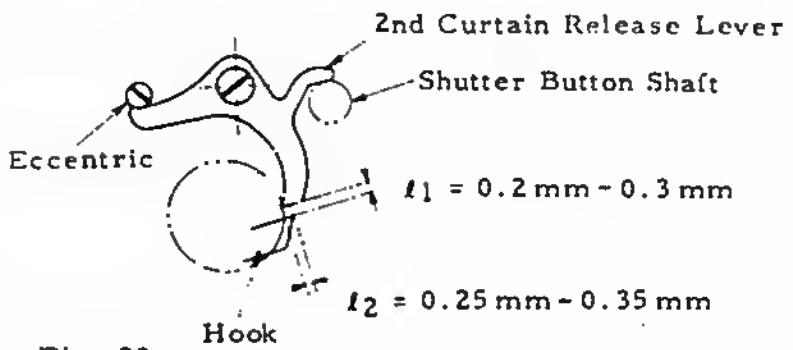

Fig. 23
3) Install the Lever and Hook as shown in Fig. 23.
For l_1 adjustment, select a suitable 2nd Cutain Release Lever (19-0656). (Fig. 23)
For l_2 adjustment, align the eccentric screw. (Fig. 23)